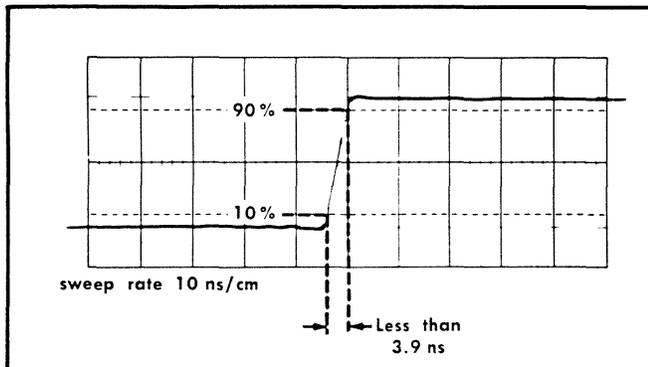

Fig. 5-8. Measuring response time of the vertical amplifier.
c. Adjust the TRIGGERING LEVEL control for a triggered display then adjust the Pulser Amplitude control for a display amplitude of exactly 2 cm. Adjust the HORIZONTAL POSITION controls and the TRIGGERING LEVEL to display a triggered pulse at the center of the graticule. See Fig. 5-8.
e. Check—Risetime equal or less than 4.2 ns for an equivalent bandwidth of 90 MHz. This is indicated by a horizontal spread of not more than 2 mm or divisions between the 10% and 90% points on the waveform when measuring as in Fig. 5-8.